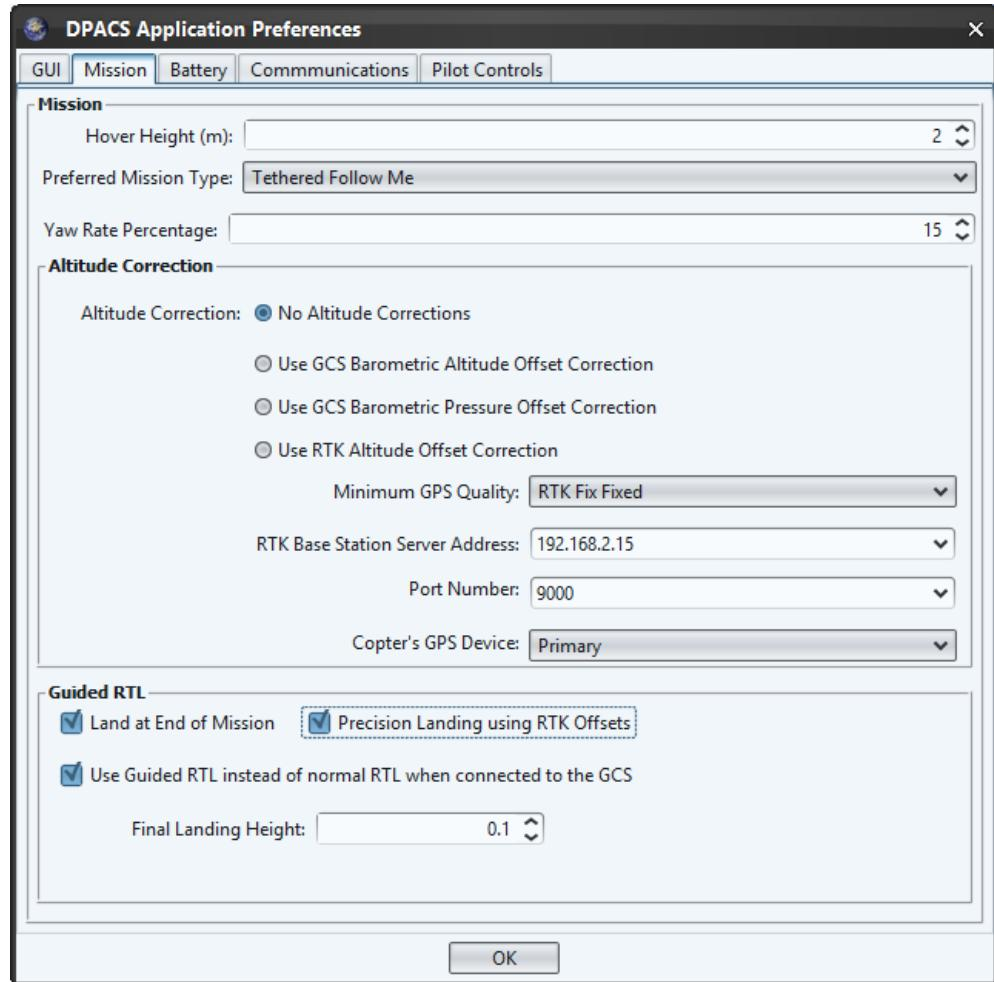

Figure 40 – Guided RTL preferences
18. If you want to RTL while moving, ensure that the “Use Guided RTL instead of normal RTL when connected to the GCS” option shown in Figure 40.
19. When Fly Home (RTL) is selected, this mode will raise the drone to the RTL altitude and then fly to the original takeoff position relative to the GCS. Guided RTL will then lower the drone at the high altitude land rate and then reduce the landing speed to the low altitude land rate land when it hits the low altitude landing setting.⁴ Once the altitude is at the “Final Landing Height” shown in Figure 40, the mode will switch to “Land”. If the drone does not appear to switch to landing mode click the Land button (Ctrl+L) and then Ctrl+Q once the drone touches the ground to avoid any mishaps while moving.